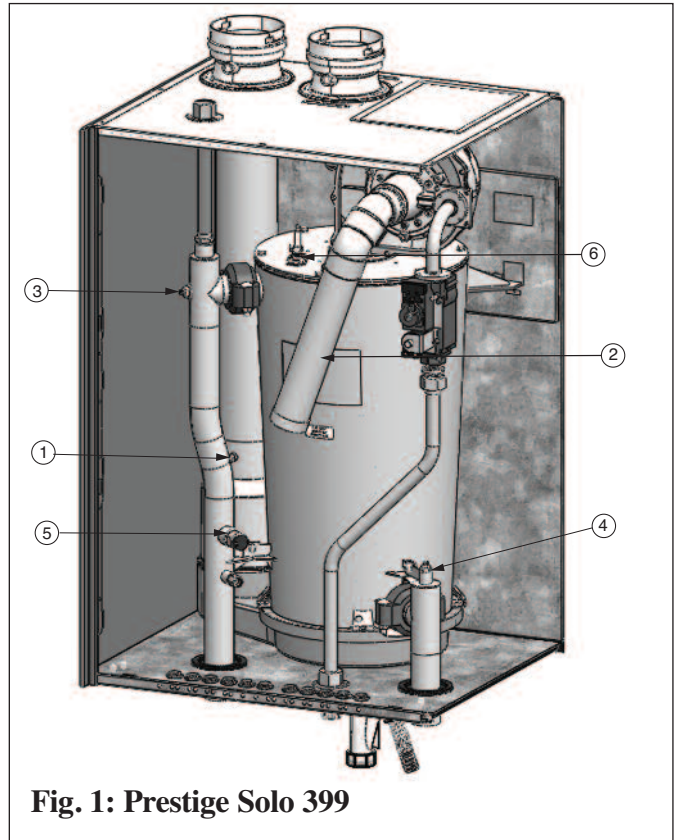

Fig. 1: Prestige Solo 399
3. Disconnect the yellow wire leads from the flue temperature sensor (shown as Item 1 in Fig. 1). Use care when disconnecting the wire leads as not to damage the sensor terminals or the wire leads.
2. Remove ignition cable and green ground wire from the igniter. (Shown as item 6 in Fig. 1).
3. Disconnect the ignition cable from the MCBA control module and remove air intake pipe from venturi. (Shown as item 2 in Fig 1). Place the intake pipe and ignition cable aside, DO NOT discard as they will be re-used.
9. Disconnect the red wire leads from supply temperature sensor (Shown as item 3 in Fig. 1) located in the boiler supply pipe. Use care when disconnecting the wire leads as not to damage the sensor or the wire leads.
10. Disconnect the blue wire leads from return temperature sensor (Shown as item 4 in Fig. 1) located in the boiler return pipe. Use care when disconnecting the wire leads as not to damage the sensor or the wire leads.
11. Disconnect the orange wire leads from the Low Water Cut-Off (LWCO) pressure switch (Shown as item 5 in Fig. 1). Use care when disconnecting the wire leads as not to damage the LWCO or the wire leads.
4. Remove green ground wire from the igniter (shown as item 6 in Fig. 1) and the ignition cable from the TriMax control module.
5. Remove air intake pipe (Shown as item 2 in Fig. 1) from venturi. Place the intake pipe aside, DO NOT discard as it will be re-used.
8. Disconnect the red wire leads from supply temperature sensor (Shown as item 3 in Fig. 1) located in the boiler supply pipe. Use care when disconnecting the wire leads as not to damage the sensor or the wire leads.
9. Disconnect the blue wire leads from return temperature sensor (Shown as item 4 in Fig. 1) located in the boiler return pipe. Use care when disconnecting the wire leads as not to damage the sensor or the wire leads.
10. Disconnect the orange wire leads from the Low Water Cut-Off (LWCO) pressure switch (Shown as item 5 in Fig. 1). Use care when disconnecting the wire leads as not to damage the LWCO or the wire leads.